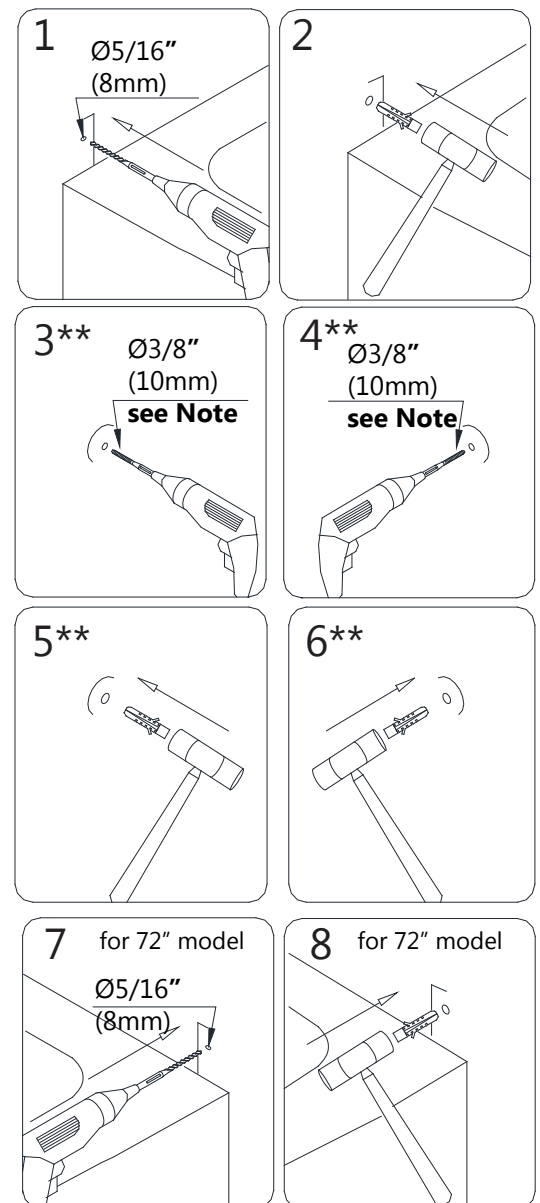

Fig 12
****If installing into a stud (recommended), drill a Ø1/4" hole and do not use the wall anchors (see note above).** (Fig 12)